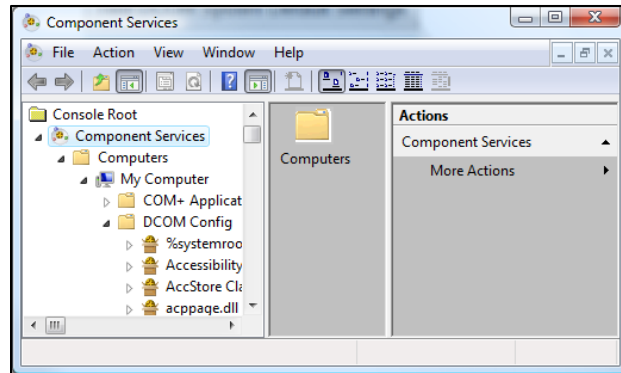

Figure 16: Component Services.
- 8** On the Component Service Dialog and select Component Services > Computers > My Computer > DCOM Config. The Component Services dialog should look like Figure 16 below.